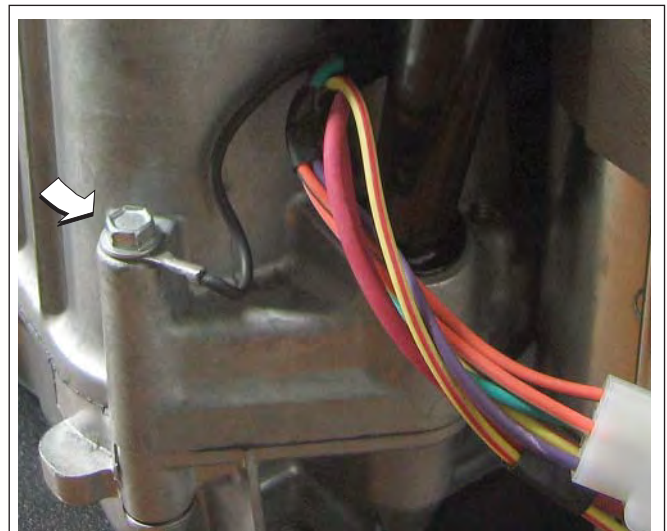

Figure 5-12 Fasten Ground Wire Ring Terminal to Boss.
- Install hex flange screw to fasten ground wire ring terminal to cylinder boss. Tighten screw to 22-35 in-lbs (3-4 Nm). See Figure 5-12.